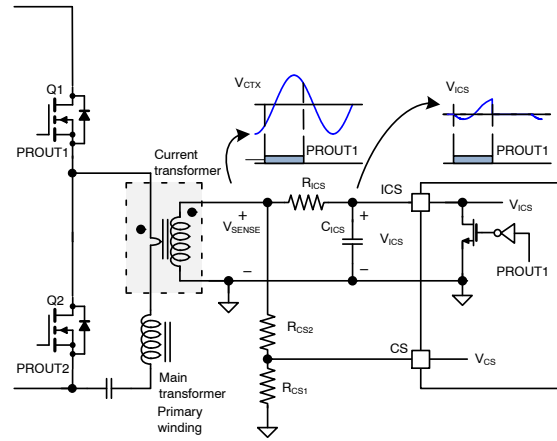
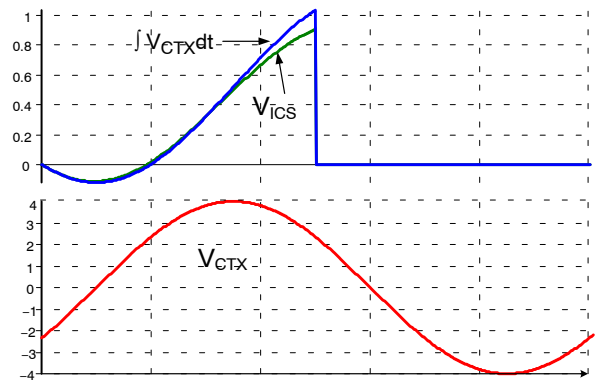
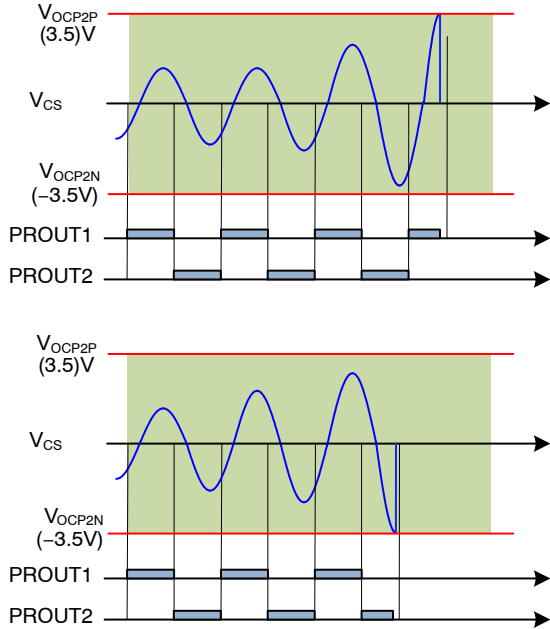

Figure 61. Current Sensing of NCP4390
Figure 62. Disable PWM mode with COMP Voltage
Figure 66. Over-Current Protection of the CS Pin
NCP4390 senses instantaneous switch current and the integral of the switch current as illustrated in Figure 61. Since NCP4390 is located in the secondary side, it is typical to use a current transformer for sensing the primary side current. While the PROUT1 is LOW, the ICS pin is clamped at 0 V with an internal reset MOSFET. Conversely, while PROUT1 is high, the ICS pin is not clamped and the integral capacitor (C_{ICS}) is charged and discharged by the voltage difference between the sensing resistor voltage (V_{SENSE}) and the ICS pin voltage. During normal operation, the voltage of the ICS pin is below 1.2 V since the power limit threshold is 1.2 V. The current sensing resistor and current transformer turns ratio should be designed such that the voltage across the current sensing resistor (V_{SENSE}) is greater than 4 V at the full load condition. Therefore the current charging and discharging C_{ICS} should be almost proportional to the voltage across the current sensing resistor (V_{SENSE}). Figure 62 compares the VICS signal and the ideal integral signal when the amplitude of V_{SENSE} is 4 V. As can be seen, there is about 10% error in the VICS signal compared to the ideal integral signal, which is acceptable for most designs. If more accuracy of the VICS is required, the amplitude of V_{SENSE} should be increased.
2. Over-Current Protection (OCP2): When V_{CS} is higher than 3.5 V or lower than -3.5 V, over-current protection (OCP2) is triggered. The instantaneous primary side current is also sensed on CS pin. Since the OCP2 thresholds on the CS pin are 3.5 V and -3.5 V as shown in Figure 66, the CS signal is typically obtained from V_{SENSE} by using a voltage divider as illustrated in Figure 61. 150 ns debounce time is also added for OCP2